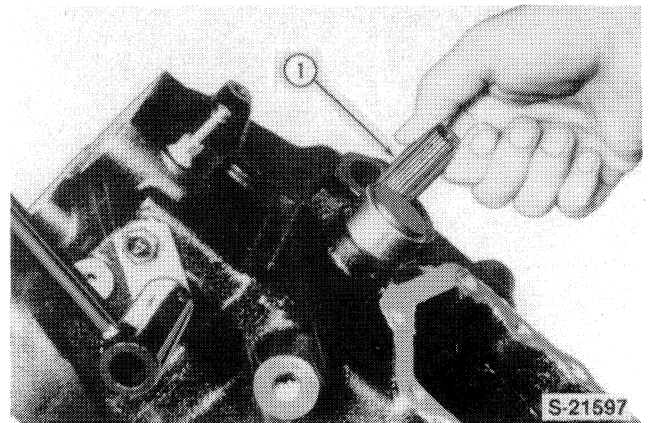

FIGURE 5-23
14. Pull the shaft, 1, rearward, Figure 5-23, Remove the shaft, gears and bearings as shown, Figure 5-24.